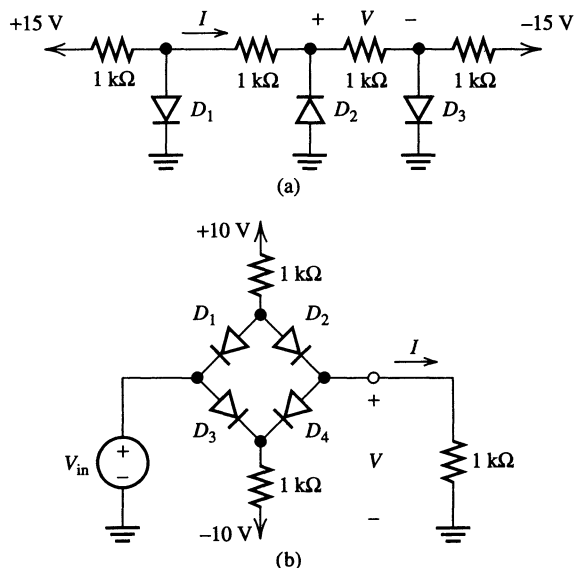

Figure P3.17
3.17. Assuming that the diodes are ideal, find the values of I and V for the circuits of Figure P3.17. For part (b), consider $V_{in} = 0, 2, 6,$ and 10 V. Then plot V against V_{in} for $-10 \leq V_{in} \leq 10$.